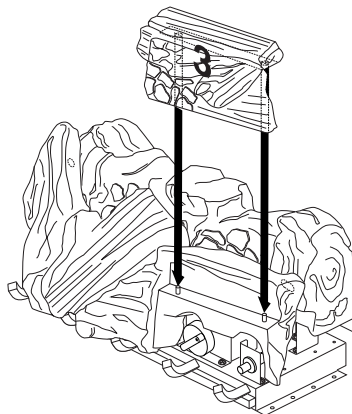

Figure 26 - Control Cover Log Placement (Variable Manually-Controlled Models)
3. Place control cover log onto two pins on front log assuring the cover log seats into cutout section of front log (see Figure 26).